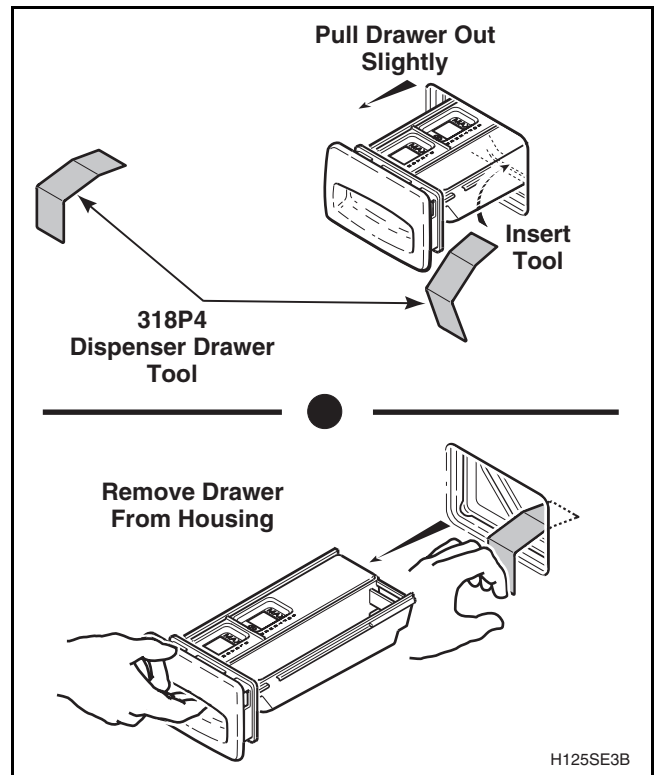

Figure 17
- Using the special tool, No. 318P4, remove dispenser drawer. Refer to *Figure 17*.